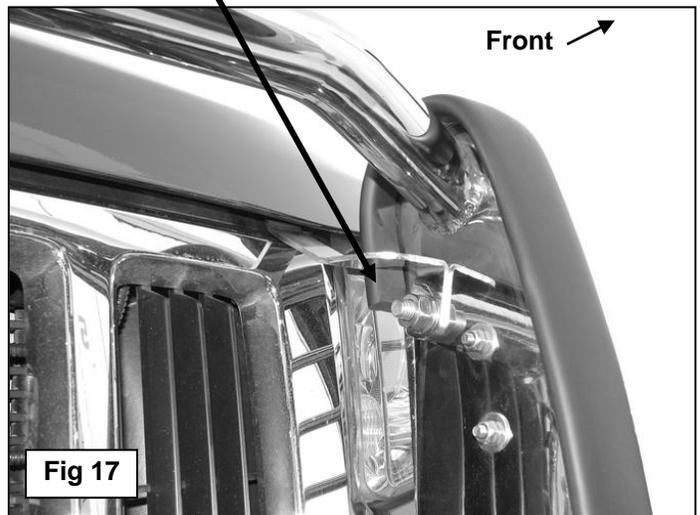
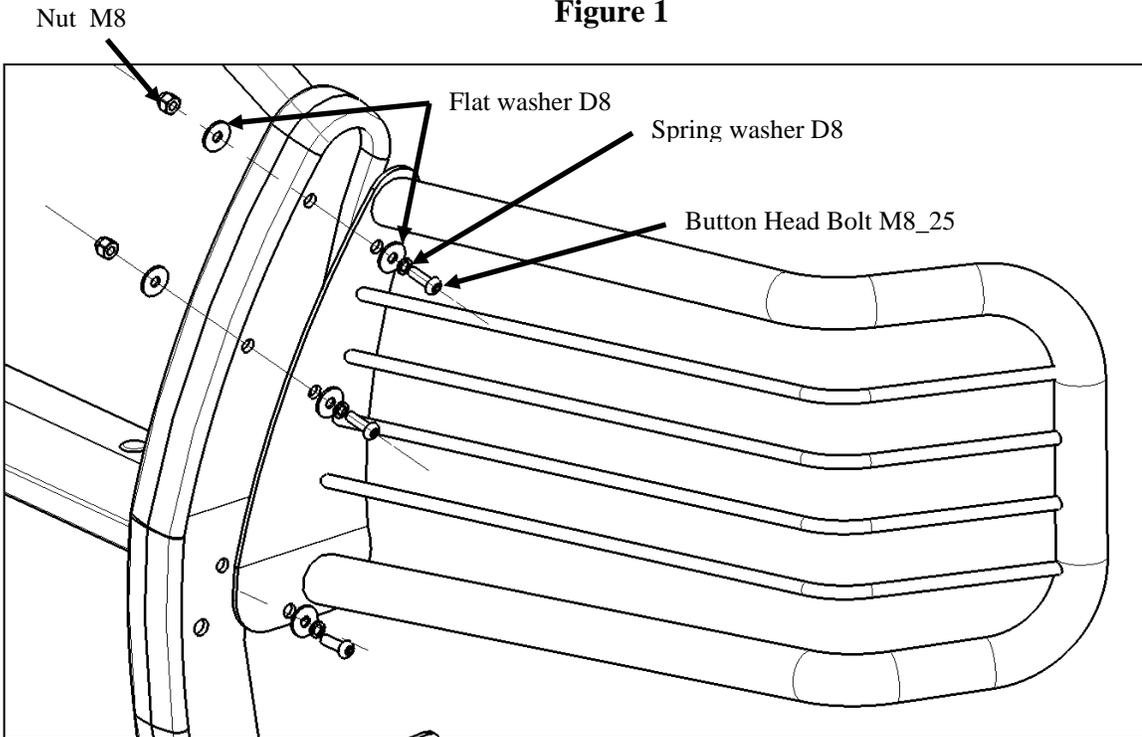

Figure 1
Figure 2
- Determine if the vehicle is equipped with or without factory tow hooks, **(Figure 1)**. Remove the plastic splash guard under the front bumper cover, **(Figure 2)**.